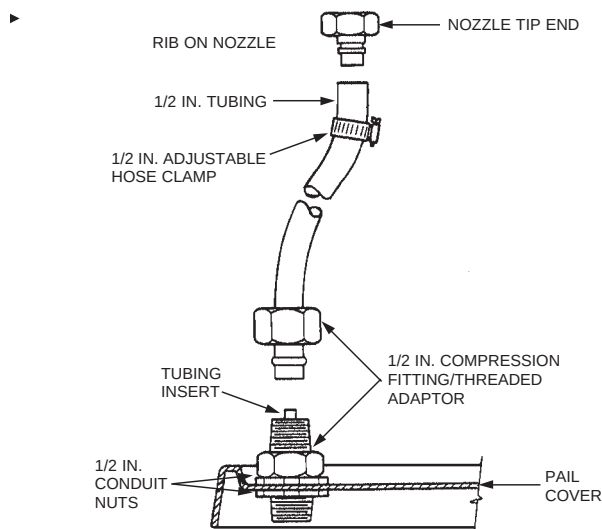

FIGURE 7-4
- b. Using the nozzle tip end, slide a length of 1/2 in. (13 mm) plastic tubing over the rib on the nozzle tip and secure with a 1/2 in. (13 mm) adjustable hose clamp. See Figure 7-4.
- d. Secure 1/2 in. compression fitting/threaded adaptors to the pail cover, using 1/2 in. conduit nuts. See Figure 7-4.
e. Attach the tubing ends to the compression fittings. Tubing inserts will be required. See Figure 7-4.